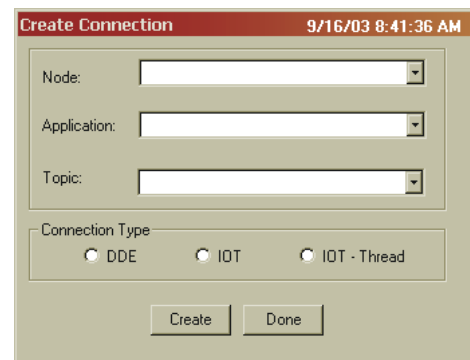

FIG. 232: CREATE CONNECTION DIALOG BOX
- Step 6. Click on Create. The Create Connection dialog box appears. (See Fig. 232)